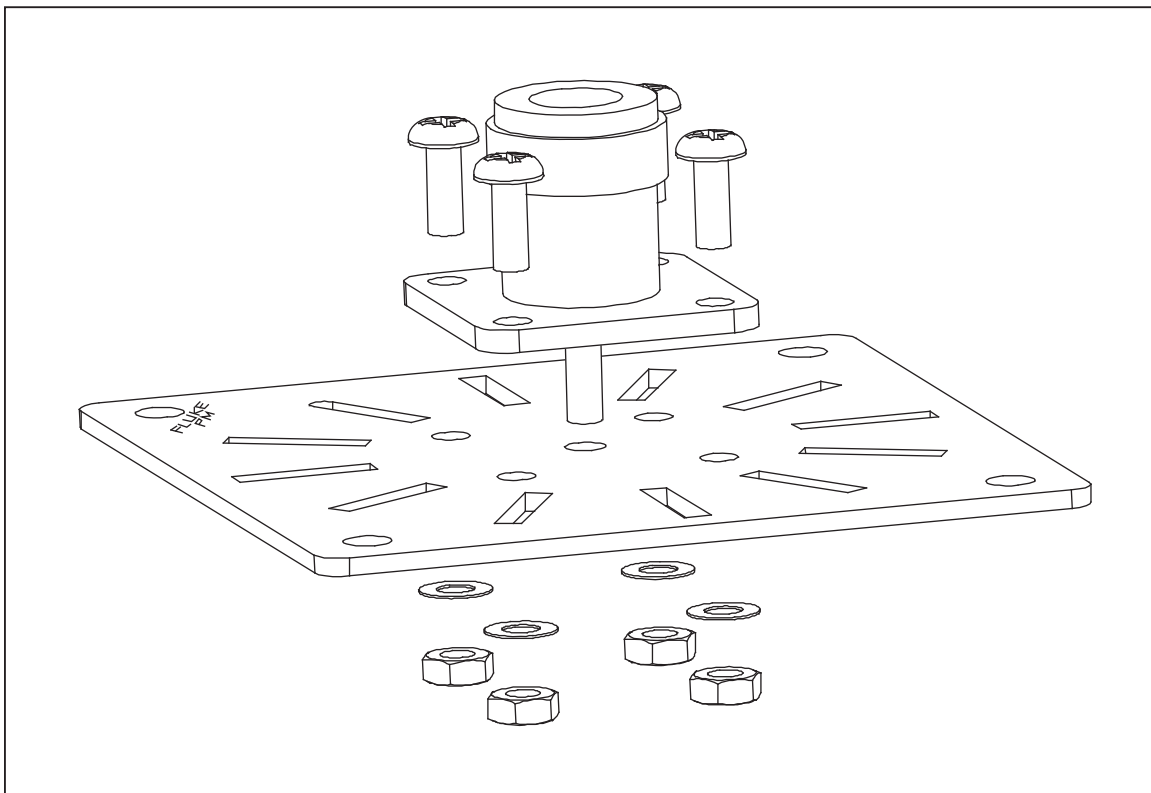

Figure 12. N-Type Input Current Connector
2. Remove the 3 mm screws, nuts and washers shown in Figure 12.